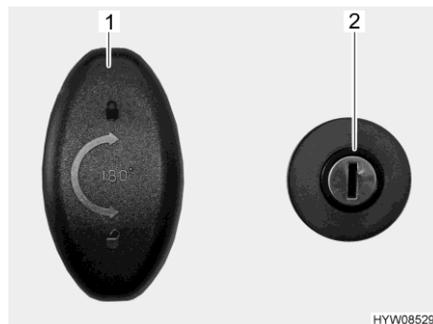

Fig. 54 Door lock (garage door)
Opening: ■ Put the key in the locking cylinder (Fig. 54,2) and turn in a clockwise direction. The central locking system is unlocked.
■ Turn the lock handle (Fig. 54,1) through half a rotation in a clockwise direction and open the garage door.
■ Turn lock handle (Fig. 54,1) one half turn in an anticlockwise direction.
■ Insert the key in the locking cylinder (Fig. 54,2) and turn it in an anticlockwise direction. The central locking system is locked.